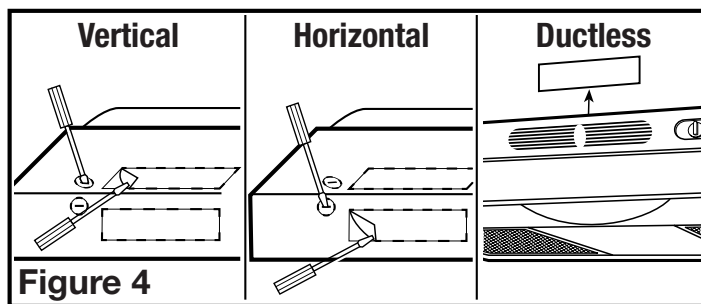

Figure 4
- 2a. **Horizontal or Vertical** - Remove the appropriate square knockout by inserting a screw driver under the edge and break the tabs holding it in place. Peel back with pliers (**Figure 4**).
- 2b. **Ductless** - Lift up and remove the hood's vent insert located behind the grill, exposing the front air slots. Do not use a screwdriver or any other object that could scratch the hood (**Figure 4**).
3. Determine where the electrical service will enter the hood and remove the appropriate electrical knockout by inserting a screw driver into the slot and rocking back and forth until the knockout comes loose (**Figure 4**).
**NOTE: FOR DUCTLESS INSTALLATIONS ONLY,** if you did not already do so in the earlier steps, remove the vent insert from behind the grill on the outside of the hood (**Figure 4**).